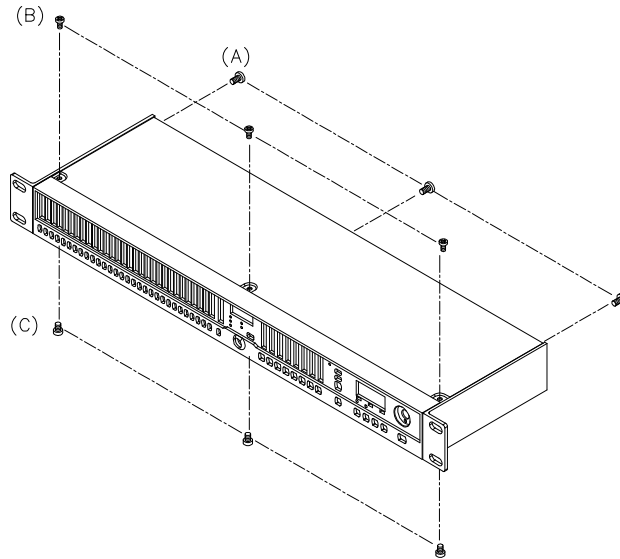

Fig.1
1. REMOVAL OF TOP COVER / FRONT PANEL (Fig1)
- (A) TAKE OUT THE 3PC SCREWS FROM WHICH THE REAR PANEL.
- (B) TAKE OUT THE 3PC SCREWS FROM WHICH THE TOP PANEL.
- (C) TAKE OUT THE 3PC SCREWS FROM WHICH THE BOTTOM CHASSIS.